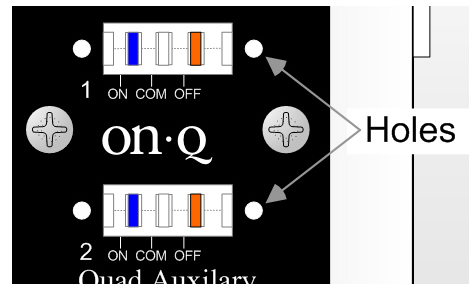

Figure 2
Step 2: Label the Quad Auxiliary Switch buttons. Remove the clear lenses by inserting a small tool, such as a paper clip, into the holes in the circuit board on the back of the switch. Refer to Figure 2. After the lenses have been removed, apply any of the provided descriptive labels.